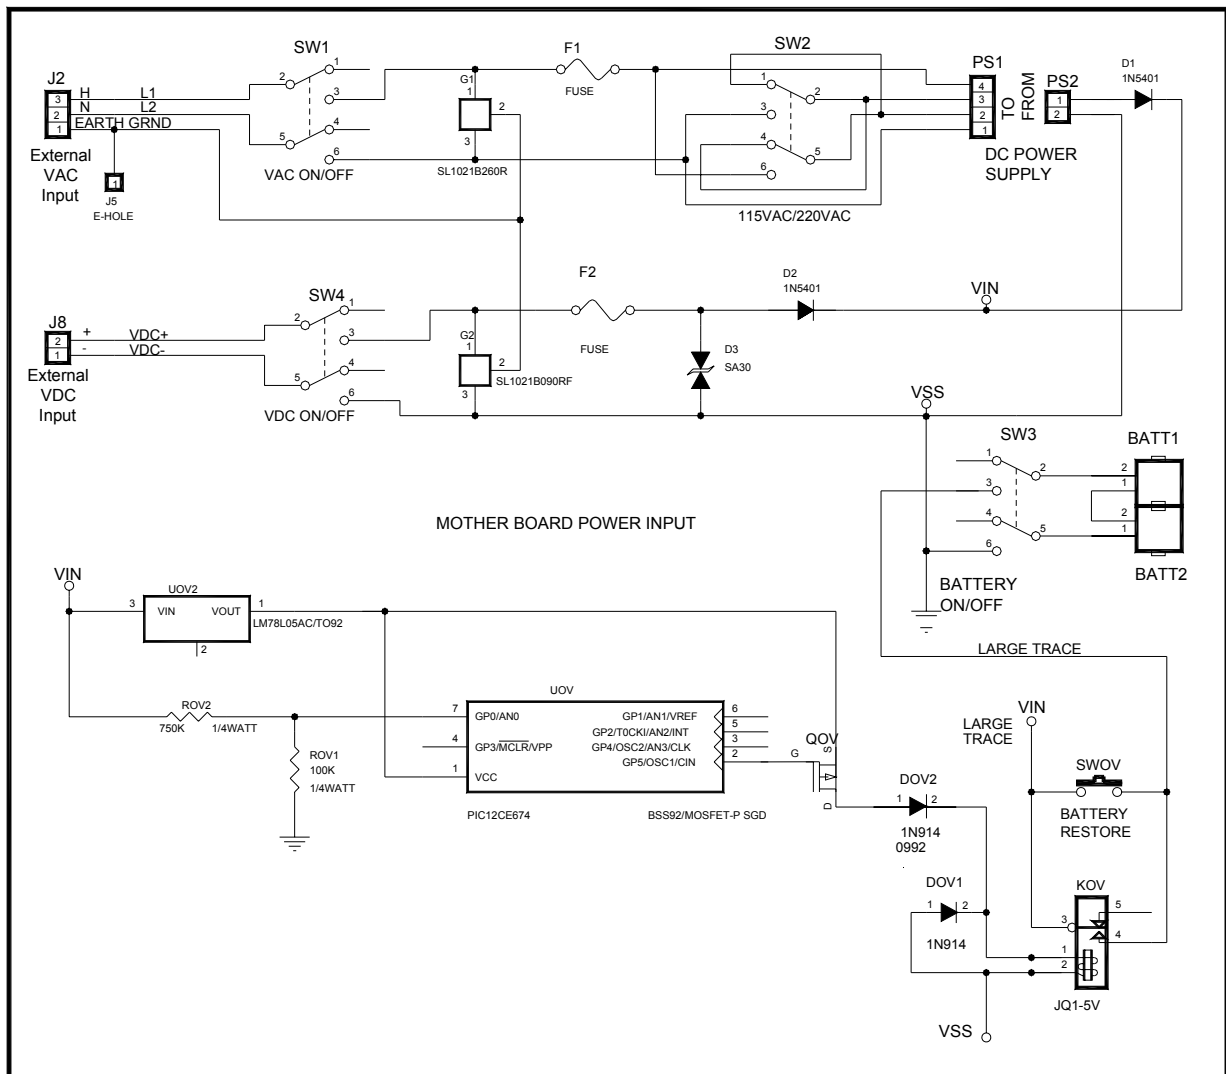
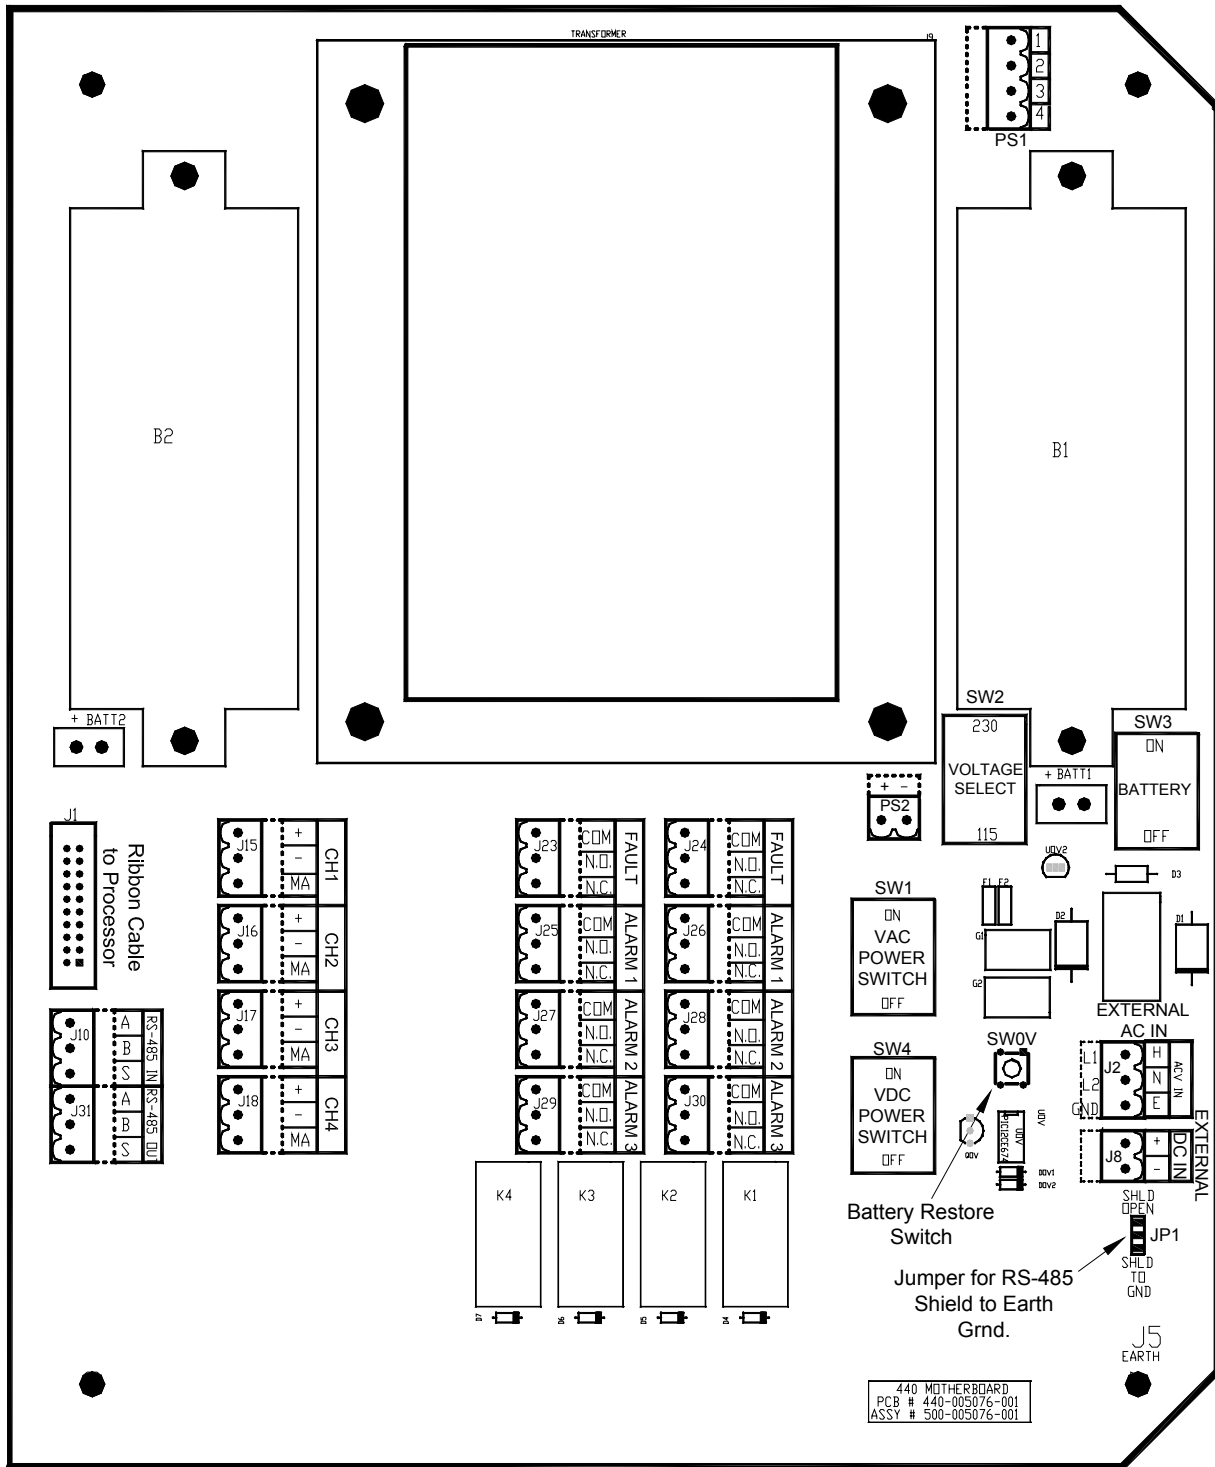
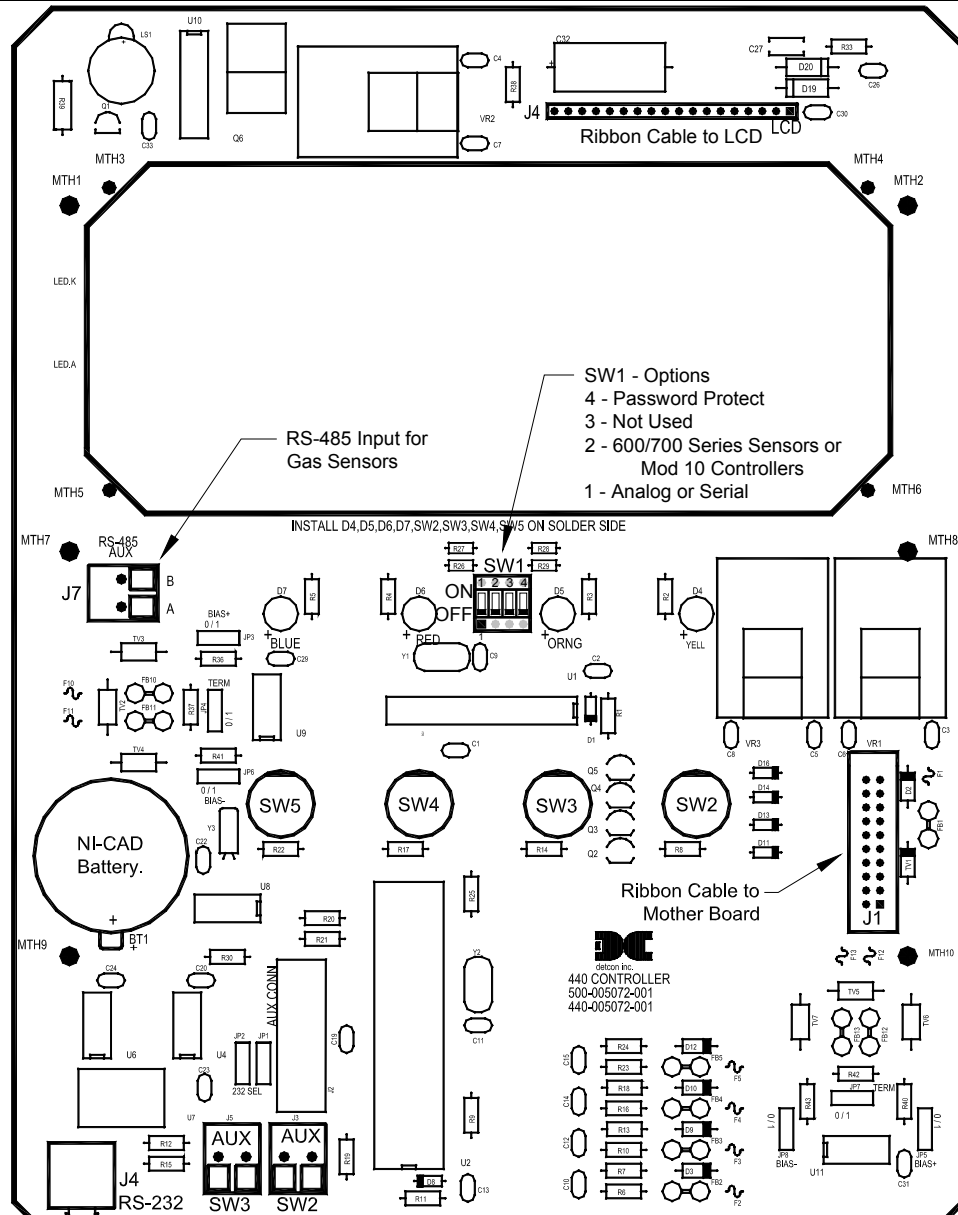

Figure 3 Power Input Schematic
Figure 4 Mother Board Layout
Figure 5 Control Board Layout
Power and I/O connections are made on the Motherboard PCB, mounted inside on the back of the enclosure. Plug-in male connector terminal blocks are provided for input wire terminations. This connector style provides for quick disconnect convenience during replacement or servicing. (Refer to Figure 4)
The connections for serial polling of gas sensors and RS-232 PC downloading activities are located at J7 on the Controller PCB. (Refer to Figure 5)
Connect the 115 or 230VAC input wiring to the terminals at J2, labeled “AC IN” in Figure 3 and Figure 4.
For optional DC power input, connect 11.5-30VDC to the terminals at J8, labeled “DC IN” in Figure 3 and Figure 4. This input can be used for primary power or back-up power in the event of a VAC power failure.
Connect 4-20mA type gas sensors to the motherboard at the terminals labeled “CH 1” through “CH 4” (J15-J18) in Figure 4. These connections are labeled (+, -, mA). For a 3-wire gas sensor connect to the “+”, “-”, and “mA” terminations. For a 2-wire sensor connect to the + and mA terminations, refer to the Operators Manual for the gas sensor that is being connected.
**Note:** Analog sensor polling requires switch SW1-1 on the Control PCB to be set in the “OFF” position. (See Figure 5)
When connecting serial input gas sensors such as the Detcon 600 Series, terminate the 3 conductors from the serial cable in the following manner: Terminate A and B on the Control PCB at connector J7 shown in Figure 5. If applicable, the shield wire can be terminated on the Mother Board at JP1 the RS-485 jumper labeled ‘SHLD TO GND’ (Refer to Figure 4).
**NOTE:** Serial sensor polling requires switch SW1-1 on the Control PCB to be in the “ON” position. If polling 600 or 700 Series Sensors, SW1-2 must be in the “OFF” position. If polling Mod 10 Controllers SW1-2 must be in the “ON” position (See Figure 5).
When polling this device serially, connect the incoming RS-485 wiring to the terminals labeled “RS-485 IN” (J10) on the Motherboard. For connection to the next polled device in the serial loop, connect the RS-485 wiring to J31 labeled “RS-485 OUT”. These terminals are labeled “A”, “B”, and “S” (Shield) for standard RS-485 Modbus™ communication as shown in Figure 4. A jumper on the Motherboard PCB (JP1) provides the option to leave the shield open or tied to earth ground. Choose the appropriate selection for the application.
The standard Model 440 Controller provides four relays. Each relay has 2 Form C contacts. They can be used to fire annunciating devices or as signal inputs to other control devices. Connect to the relay contact terminals of the Motherboard PCB. There are two sets of terminals labeled FAULT, ALARM 1, ALARM 2, and ALARM 3 (Figure 4 – J23-30). The relays are double pole double throw (DPDT), which allow more flexibility in the creation of alarm system set-ups. Connections are labeled C (common), NO (normally open) and NC (normally closed).
Figure 6. For AC power, locate the V-SELECT switch (SW2) and select the appropriate voltage setting. If the unit will be powered by AC voltage only, then the VAC power switch (SW1) should be turned to the ON position, and insure the VDC power switch (SW4) is in the OFF position. If DC is used to power the unit, the VDC power switch should be turned to ON and the VAC power switch should be OFF. If the unit is to be powered by AC *and* DC sources simultaneously, then both power switches should be in the ON position. The switches are located on the Motherboard, shown in Figure 4